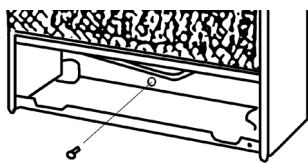
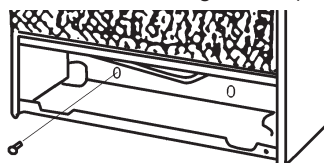

Figure 11C
Figure 11D
8. Tighten the screw until heater is firmly secured to wall. Do not over-tighten spacer onto the wall. (For MD2TPA see Figure 11C), (For MD3TPA,MD3TPA-BB,MD5TPA,and MD5TPA-BB see Figure 11D)